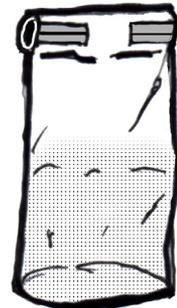

Figure 3-32
5. Secure the closure by snugly twisting the metal ties together and folding the metal-reinforced ends around the Whirl-Pak (Figure 3-32).
The Freshwater and Marine Team have monitoring locations where the water is too deep to safely enter the waterbody. Some groups collect ocean samples from boats or off piers, and other groups collect samples in deep lakes and rivers, which requires a special sampling device called a Niskin sampler (Figure 3-32). The Niskin sampler is attached to a rope or cable and is lowered into the waterbody being sampled. This device is equipped with a messenger (weight) that triggers the Niskin sampler to close at a specific depth. Figure 3-33 shows a vertical Niskin Sampler, which is used for lakes, estuaries, and the ocean. In deep streams and rivers a horizontal version of the Niskin sampler is used to capture flow coming downstream.